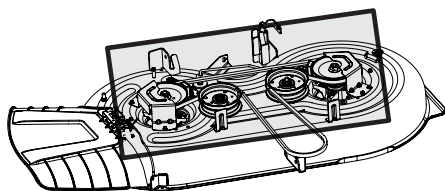

Figure 23
- Clean the top of the tractor deck, under the spindle covers, and belt area. See Figure 23.